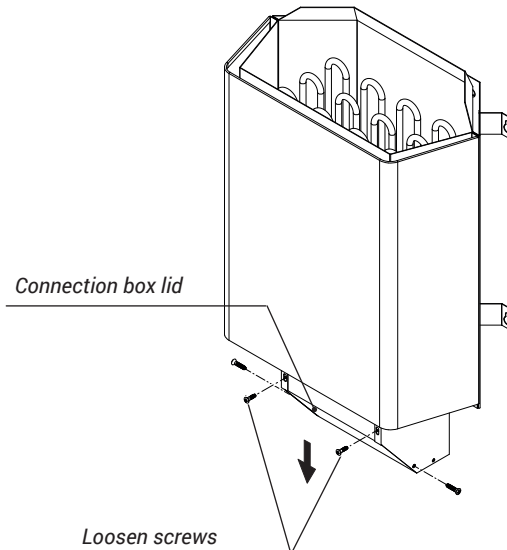

Fig. 4
- Open the cover of of the terminal box (remove 4 screws) as shown in Fig. 4 and pull the cover downwards.